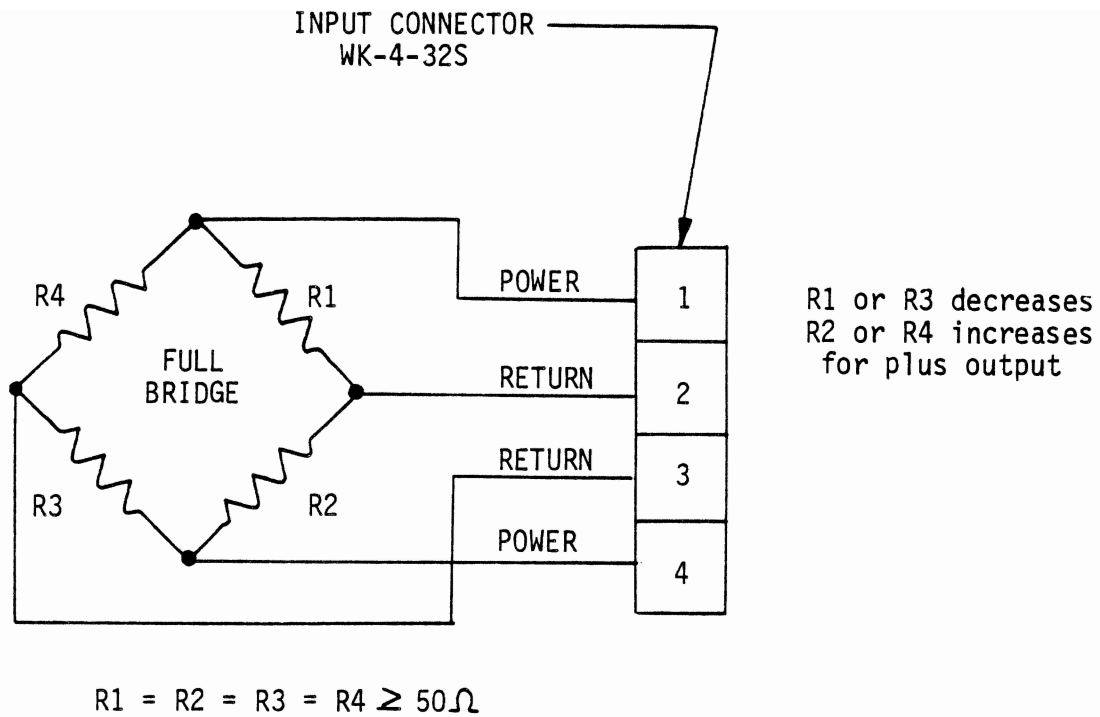

Figure 3-2. Transducer Connections for Full-Bridge, Four-Arm Operation.
A. Connect transducer as shown in Figure 3-2. Position jumper E1 (2-ARM/4-ARM jumper) to the 4-ARM position and jumper E3 (VAR REL. STR. GAGE/LVDT INPUT jumper) to the A position.